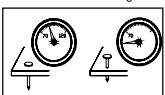

Fig.6
9. Test for proper nail penetration by driving nails into a sample piece of wood. If the nails do not achieve the desired penetration, adjust the air pressure to a higher setting until the desired penetration is achieved. Do not exceed 125 PSI (8.6 bar) at the tool. (See Fig. 6)